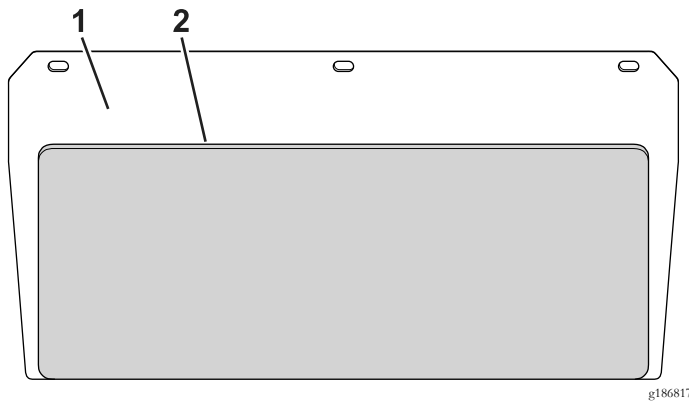

Figure 9
4. Remove the backing and apply the rear-panel shield, centered, to the engine side of the rear panel (Figure 9).